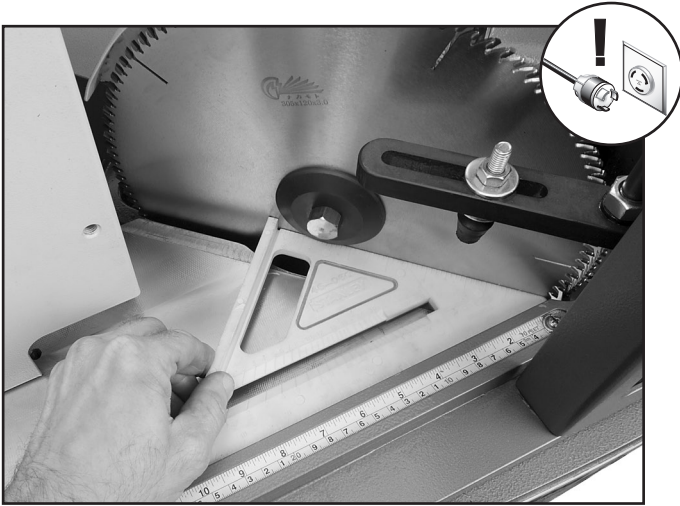

Figure 47. Using a 45° square to align blade.
6. Place a 45° square against the fence and the blade, as shown in **Figure 47**.